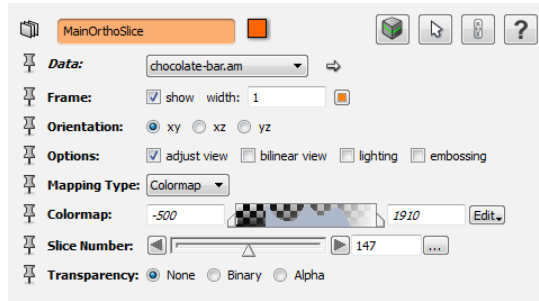

Figure 4.75: The *MainOrthoSlice* module properties.
- You may select the module *MainOrthoSlice* and adjust the colormap range of the edges area or transparency for better seeing the edge areas (see Figure 4.75).